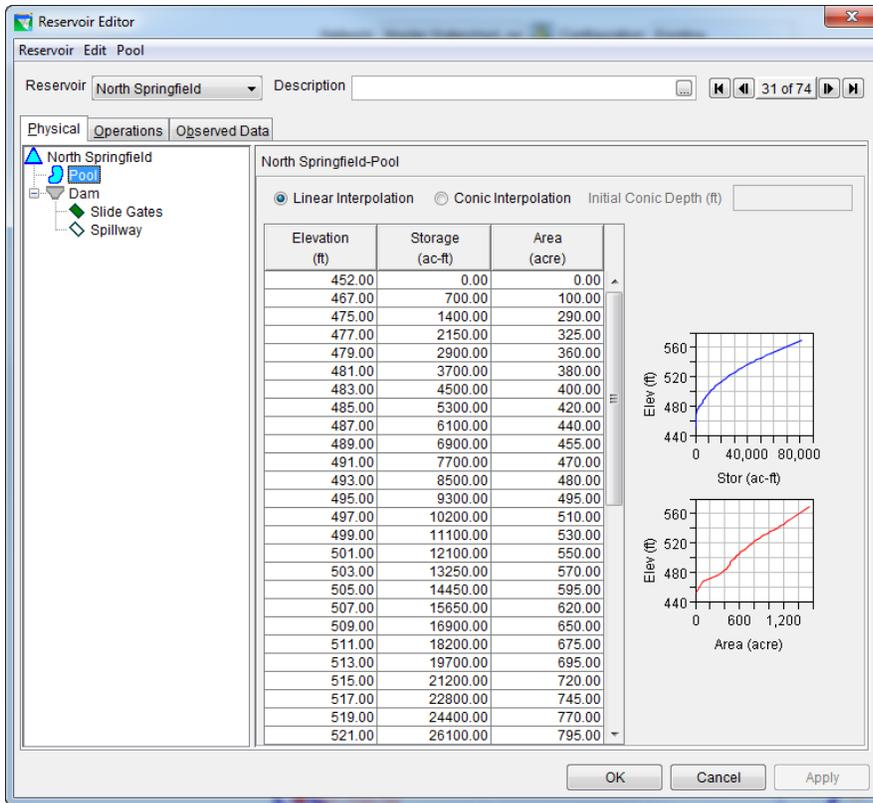
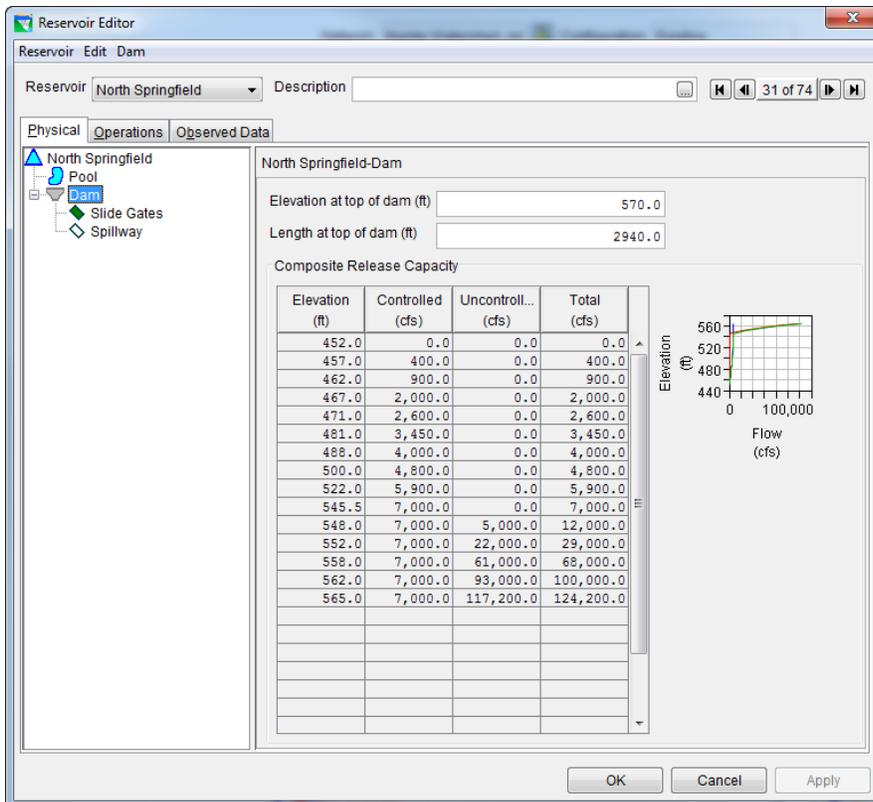

Figure 3: Reservoir Editor: Physical Tab -- Pool
Figure 4: Reservoir Editor: Physical Tab -- Dam
The physical characteristics of the reservoir are separated between the Pool and the Dam in the HEC-ResSim model. The elevation-storage-area defines the pool as shown in Figure 3. The dam consists of two types of outlets: (1) controlled slide gates, and (2) uncontrolled spillway, as shown in Figure 4. All physical and operations data were provided by US Army Corps New England District, through both a previously created ResSim model and the Reservoir Regulation Team website75.